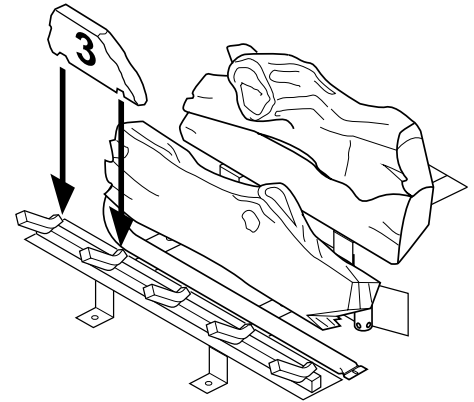

Figure 47 - Installing Log No. 3
4. Place log #3 (left piece) onto the front left part of the grate. Make sure it is seated properly over the prong of the grate as shown in Figure 47.